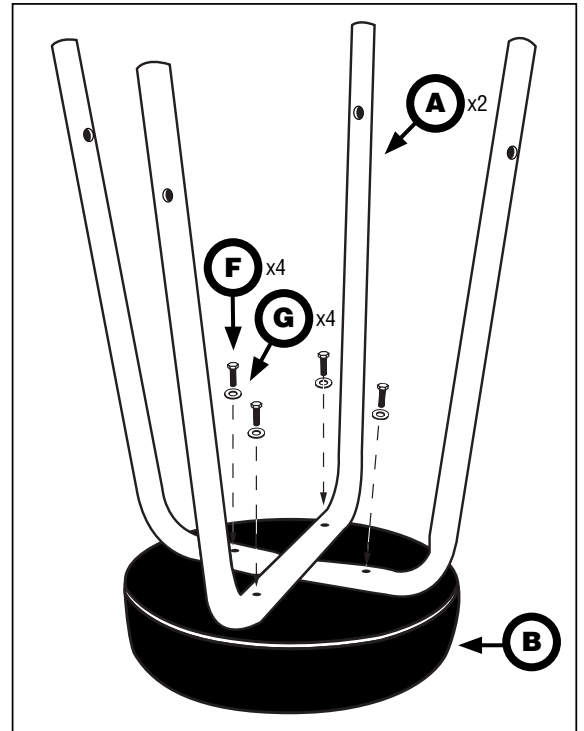

Figure 1
- 2** Place the seat cushion (**B**) upside down on a soft, clean surface. Use the 1 1/2" hex head seat bolts (**F**) with washers (**G**) to attach the U-shaped leg frames (**A**) to the bottom of the seat cushion. Note that the frames have a "crossover" design and are flattened in the center on one side only. These flat faces should be placed against one another for correct fit. Keep hex bolts slightly loose for now. See *Figure 1*.